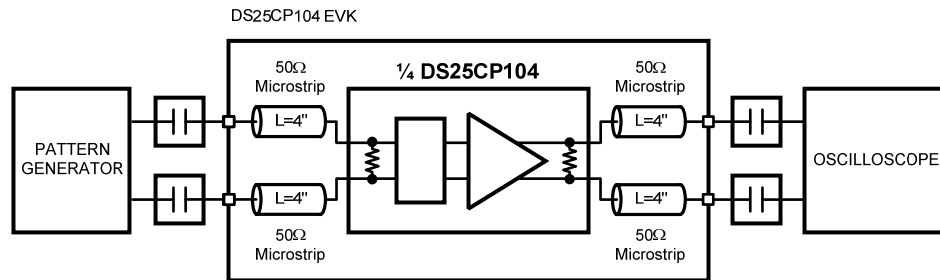
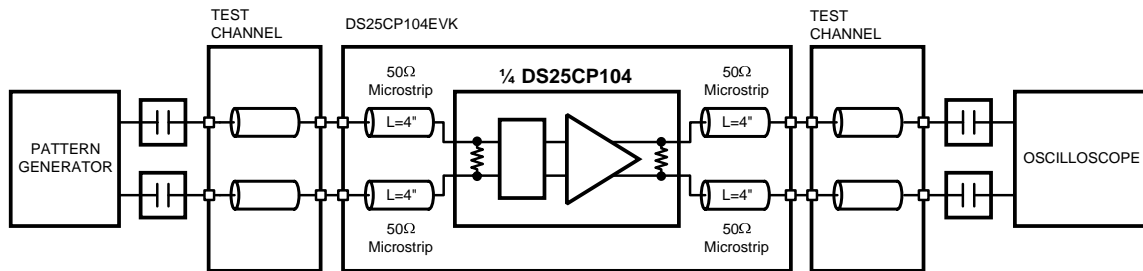

Figure 4. Jitter Performance Test Circuit
Figure 7. Pre-emphasis and Equalization Performance Test Circuit
1. Configure the test setup as shown in Figure 4.
1. Configure the test setup as shown in Figure 7; select the desired test channel, lengths in Table 7.
2. Configure the test setup as desired, examples are fig. 4 – fig. 7.